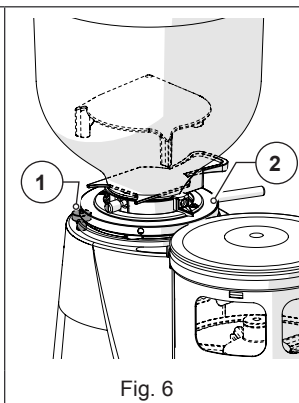

Fig. 6
- **Ring Nut Lock Ferrule (Fig. 6)**